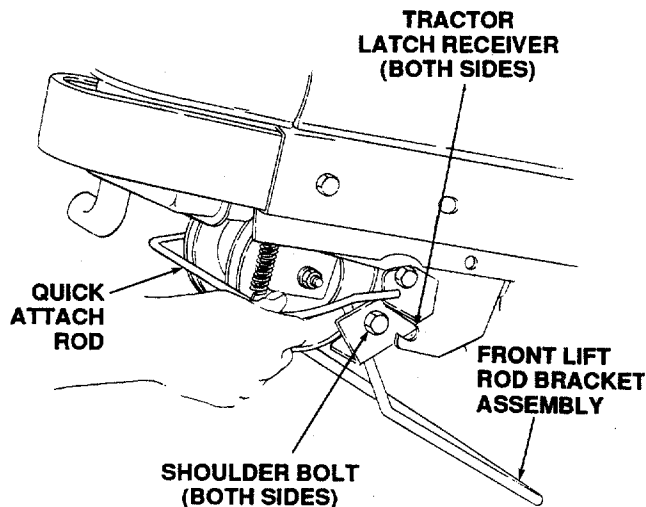

Figure 44
9. From the front of the tractor, push downward and hold the tractor quick-attach rod. Pull the front lift rod/bracket assembly forward to release the shoulder bolts on each side of the bracket from the left and right tractor latch receivers. Release the tractor quick-attach rod. Refer to Figure 44